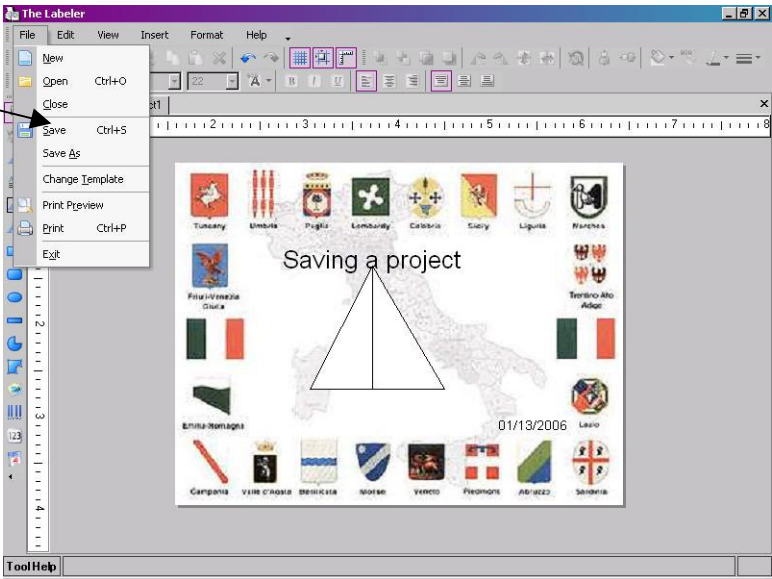

Figure 5.1.1: Saving a Project.
1. Click on the save icon located on the standard tool bar or go to the file menu and click save there (see Figure 5.1.1).